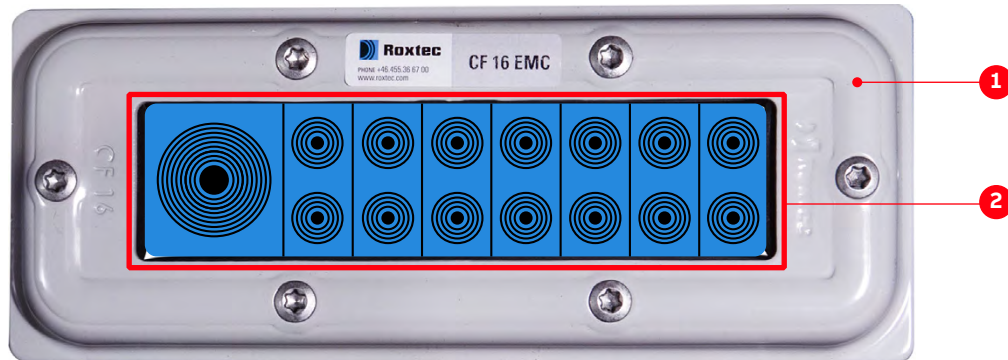

Figure 7-4: Type 2 sealing modules example
(1) Cable entry frame
(2) Sealing modules
- **Included in delivery:** frame (1 in Fig. 7-4)
- **Not included in delivery:** tools, accessories and EMC sealing modules (2 in Fig. 7-4)